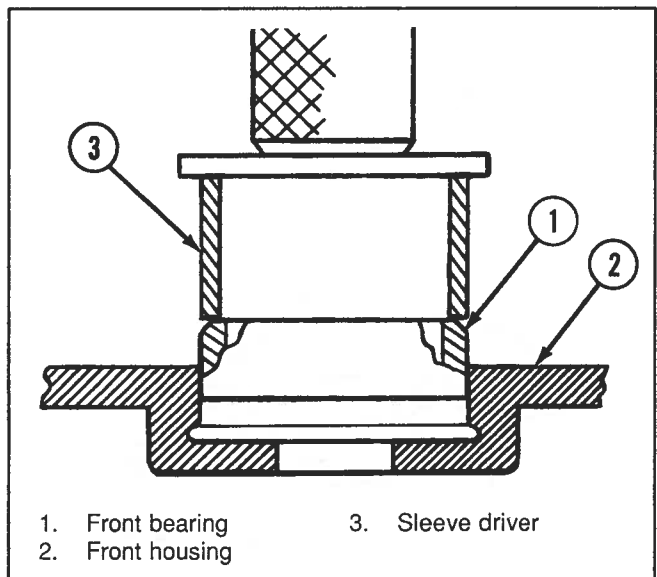
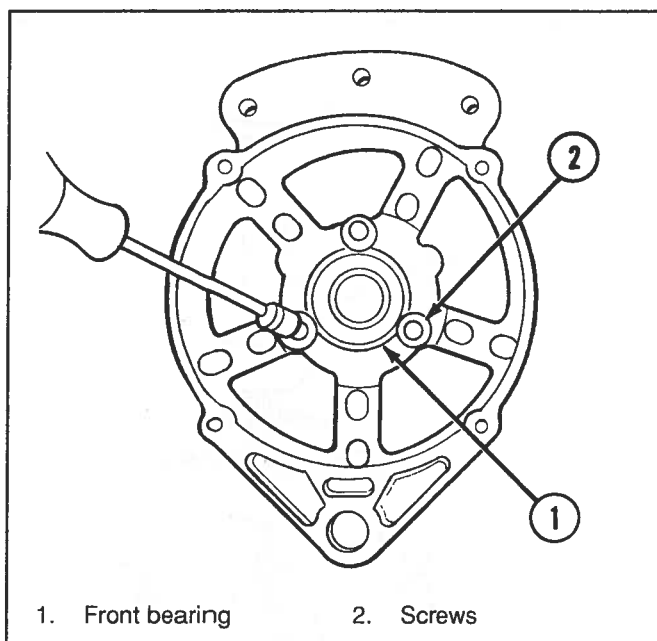

Figure 6-84. Pressing Front Bearing Into Front Housing
Figure 6-85. Tightening Alternator Front-Housing Screws
4. Carefully press the front bearing into the front housing, pushing against the bearing outer race with a sleeve driver (See Figure 6-84). Lock the bearing in place with screws (Figure 6-85). Torque screws to 25-35 lb-in (2.8-4.0 N•m).